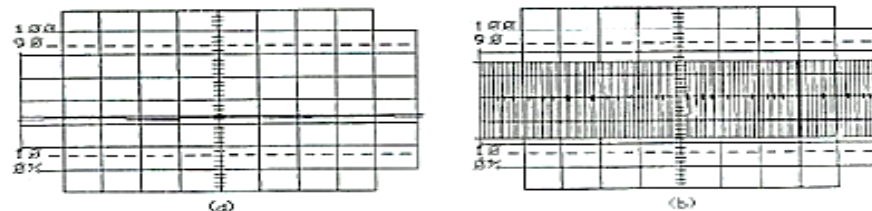

Figure 4-12 (a) and (b).
12. A trace like the one in Figure 4-12 (a) appears at the USB FILTER output on channel 2. Increase the VCO-LO's frequency to the MODULATOR by slowly turning the NEGATIVE SUPPLY knob CW until the LSB FILTER'S output appears, as illustrated in Figure 4-12 (b).